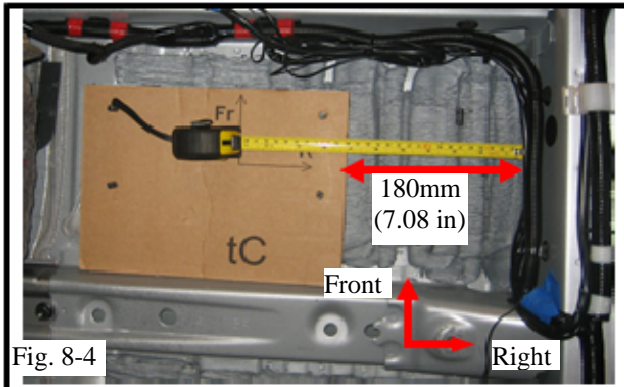

Fig. 8-4
- (f) Place the edge of the template, with attached brackets, as shown in the picture. The template alignment will be 180mm to the drivers side of the right edge and flush with the back edge of the floor. (Fig. 8-4)